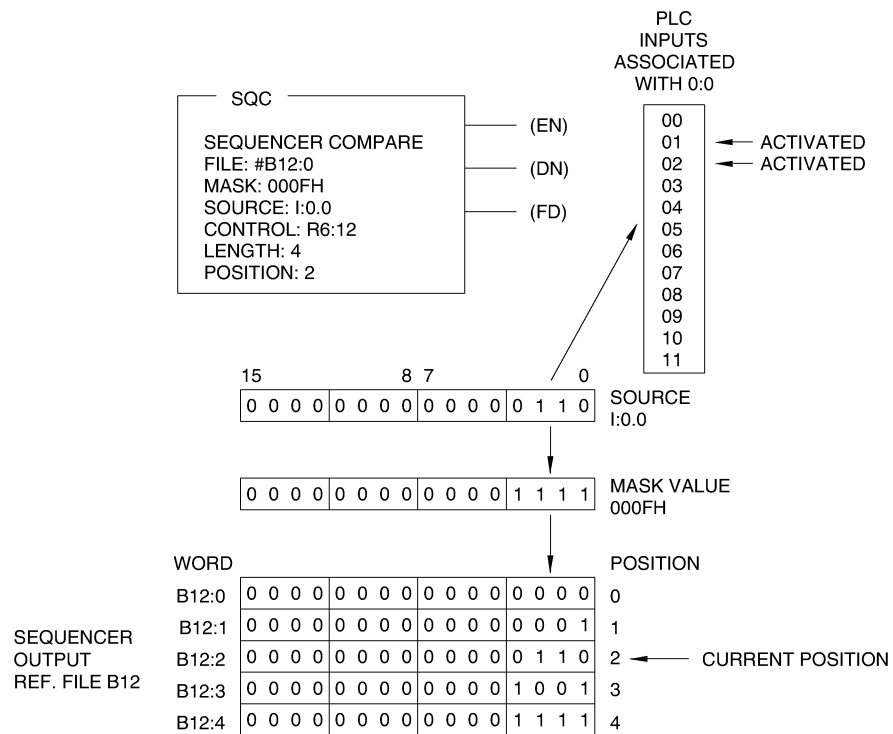

Figure 7-2. Operation of the SQC instruction.
Figure 7-2 shows how the SQC instruction works. When the rung containing the SQC instruction goes from false to true, this instruction steps to the next position in its sequencer file (file B12). The bits in the sequencer file are programmed to monitor PLC inputs 0 through 3. They are compared, through the mask value (000FH), against the bits at the source address (I:0.0) for equality. When all the non-masked bits at the source address match the bits in the reference word of the sequencer file, the Found (FD) bit of the sequencer instruction is set to logic state 1. When the bits do not match, the FD bit is set to logic state 0.
In Figure 7-2, for example, the SQC instruction is at position 2 of its sequencer file. Consequently, the word of data stored at address B12:2 is compared, through the mask value, against the bits at source address I:0.0. Since PLC inputs 1 and 2 are activated, the bits at addresses I:0/1 and I:0/2 are set to logic state 1. Since bits 0 through 3 of the mask value are set to logic state 1, bits 0 through 3 at source address I:0.0 are non-masked. Consequently, all the bits at source address I:0.0